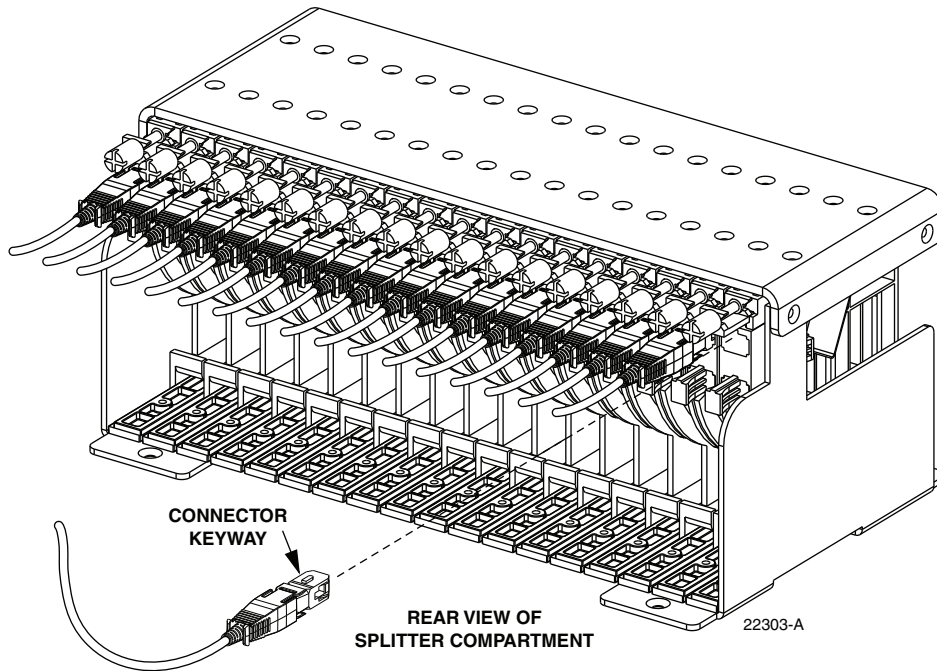

Figure 79. Feeder Cable Connector
9. Insert the feeder fiber connector into the appropriate bulkhead adapter (remove dust cap from adapter) at the rear of the splitter compartment as shown in Figure 79.